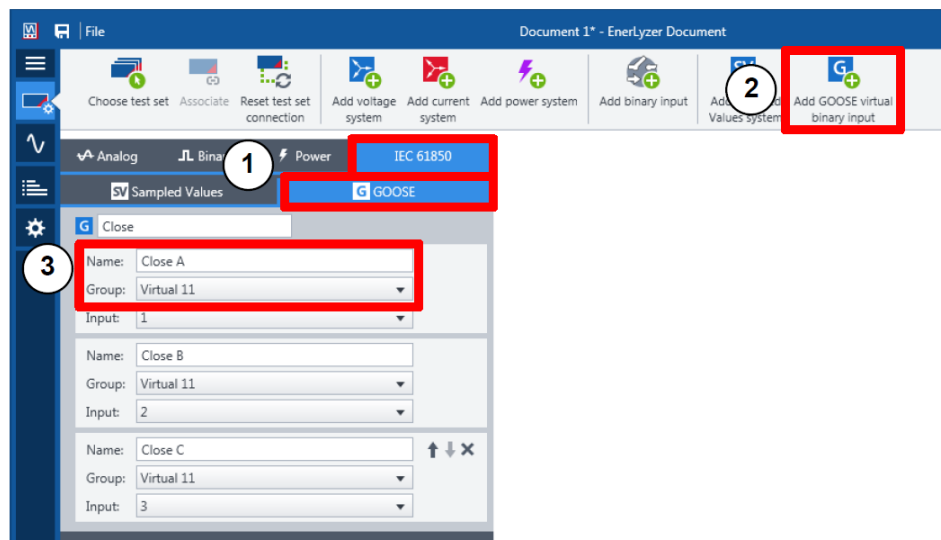

Figure 7: *Test set configuration* for virtual binary inputs.
- C. In the *EnerLyzer Live Test set configuration* (as in Figure 7):